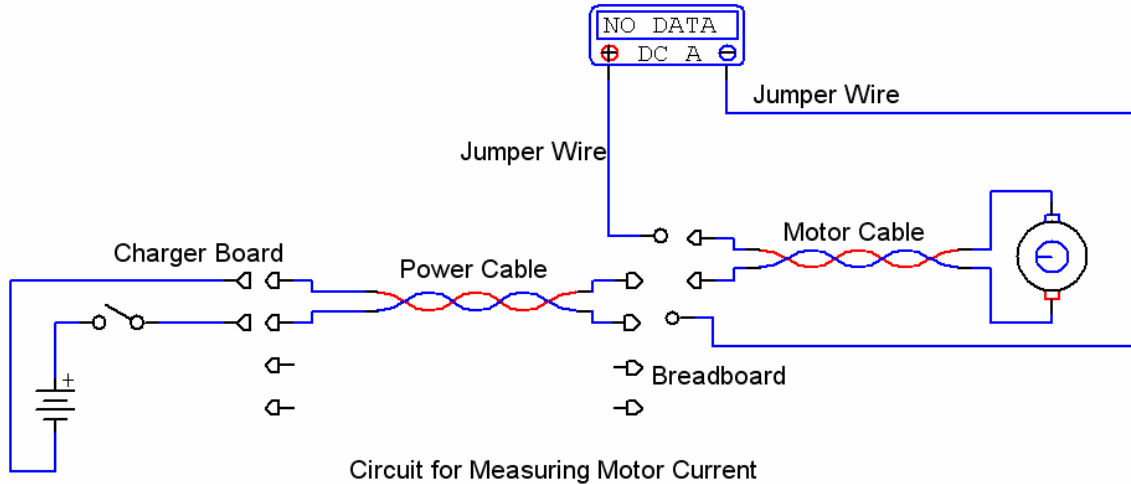

Figure 9
8. Move the motor connector one node position so that only the ground pin from the power cable is connected to the motor. Connect the DMM to measure current. See Figures 9 and 10. Record in Table 1. Why is the measured resistance much less than the value obtained by using Ohm's Law? Use your hand to apply some drag to the wheel and observe the change in current. Don't use enough force to stall the motor; you may strip the plastic gears.